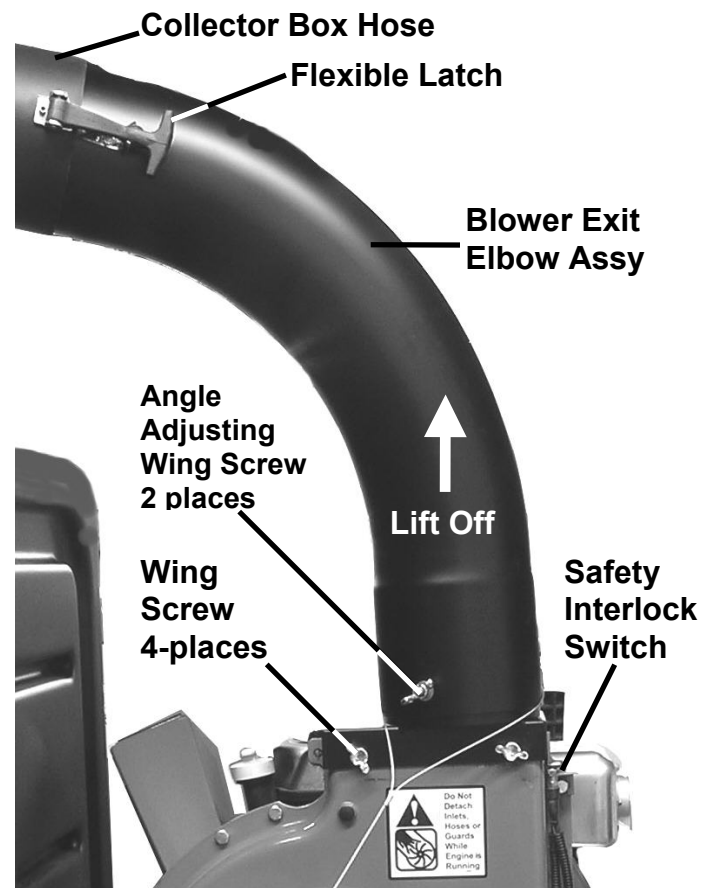

Figure 44
1. Disconnect the Blower Exit Elbow to the Collector Box Hose by releasing the two flexible latches (*Figure 44*) and separate the hose.
3. Remove the four (4) Wing Screws from the Blower Exit Elbow Assembly (*Figure 44*).
4. Lift the Blower Exit Elbow Assembly from the top of the Blower and install a new assembly in the reverse order (*Figure 44*).
1. Disconnect the Blower Exit Elbow Assembly from the Collector Box Hose (Figure 44).